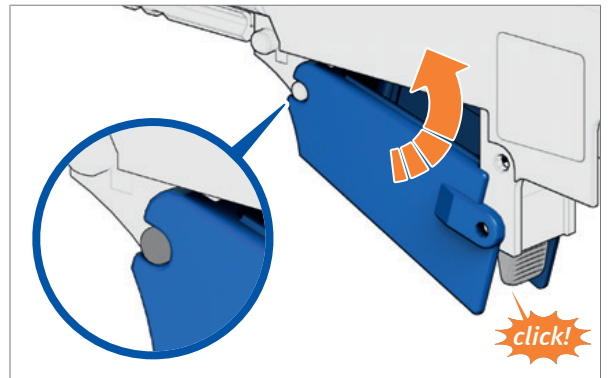

Fig. 124: Insert magazine well
- › Insert magazine well into mounting lugs and swivel it upwards until the magazine catch engages (*Fig. 124*).